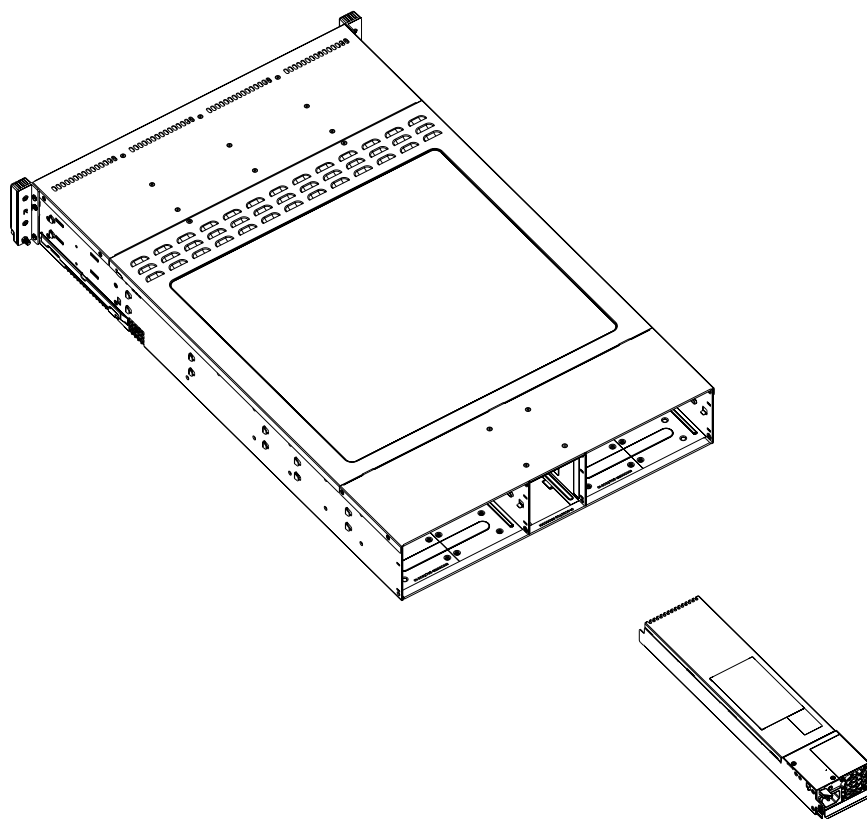

Figure 6-5 Power Supply Removal Example
3. Pull it straight out using the rounded handle, see Figure 6-5 on page 50 for an example.